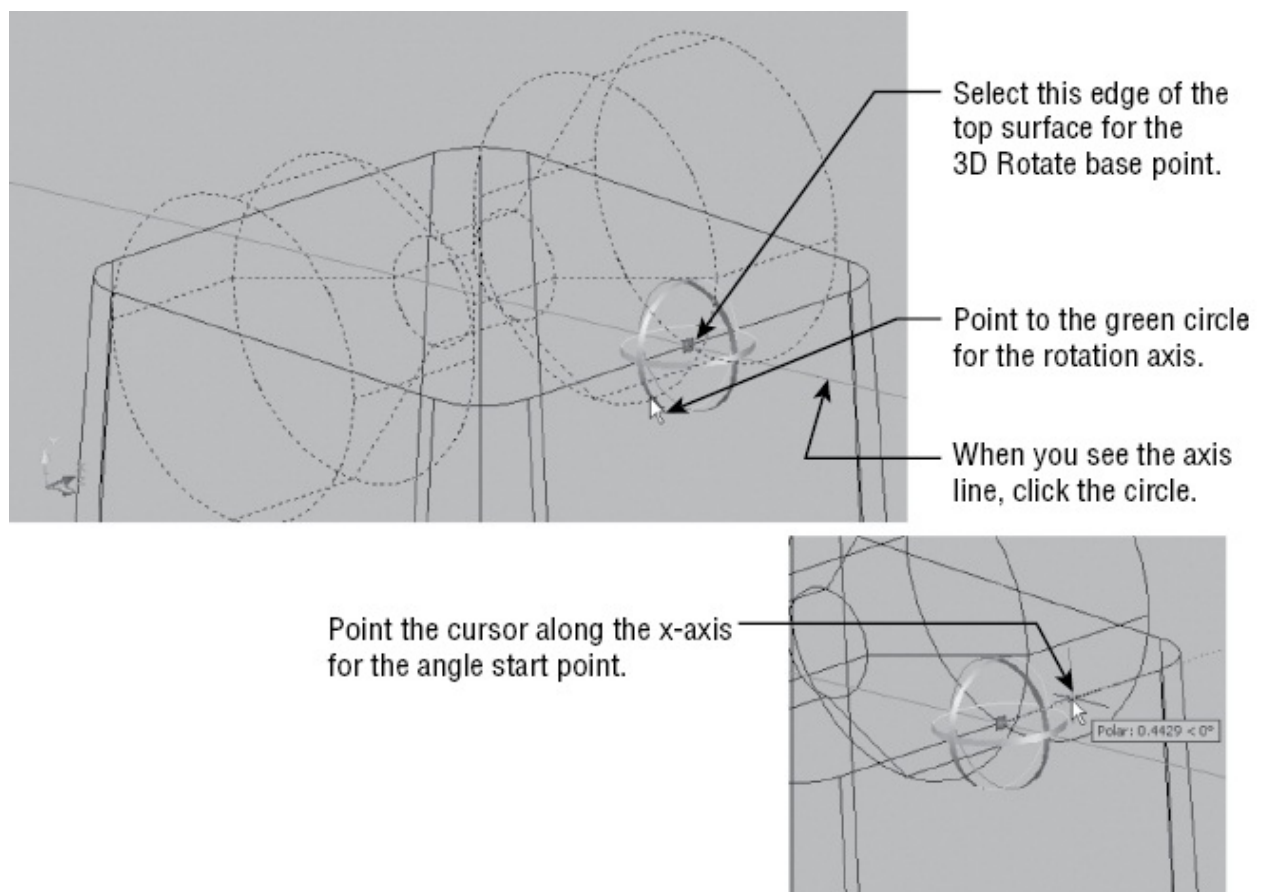

FIGURE 22.13 Selecting the points to rotate the revolved solid in 3D space
3. At the Specify base point: prompt, use the Midpoint osnap and click the right side edge of the top surface, as shown in Figure 22.13.